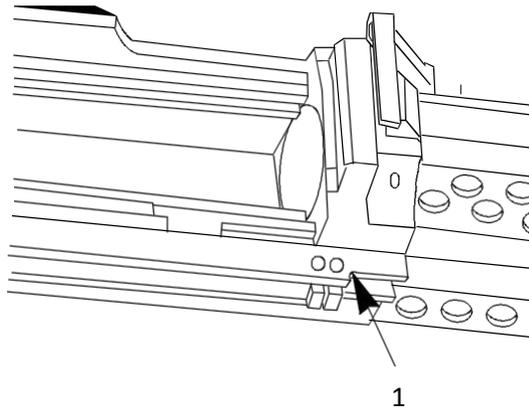

Figure 5. Cocking Handle Stop.
- k. Inspect for loose cocking handle stop. Inspect for cracks in the radii (just forward of the stop) of the cocking handle channel (Figure 5, Item 1).